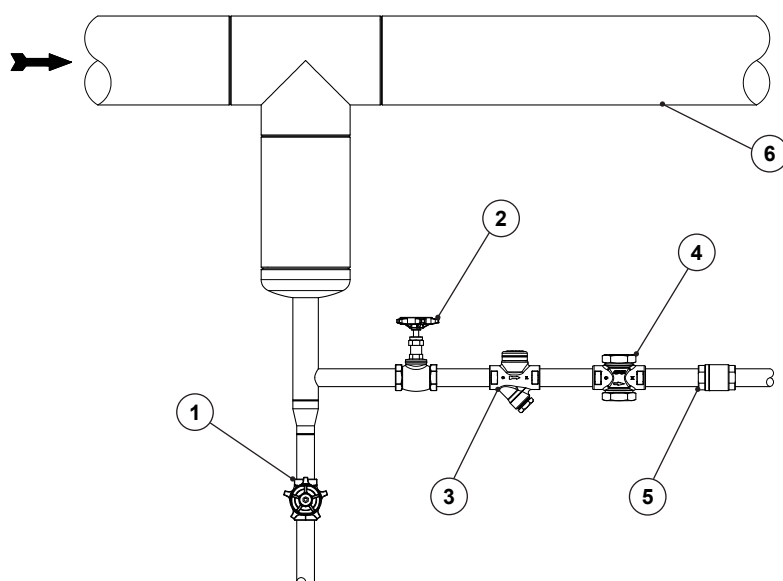

Fig. 2
- Referring to this Installation and Maintenance Instructions (IMI), Information Sheet (IS) and nameplate, check that the product is suitable for the intended installation: temperature, medium, pressure, temperature, etc. – see section 1.2 – Intended use.
- A typical installation is shown in Figure 2. The check valve is necessary to prevent back flow when discharging to a closed return line.